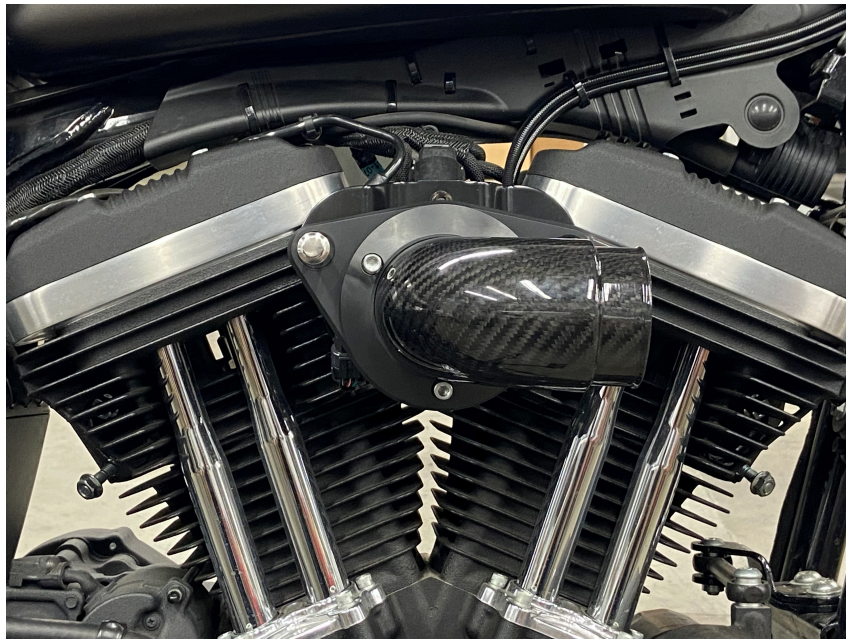

Figure 1
7. Slide cover ring (**2**) onto the 90 degree tube (**3**). Then use three 1/4"-20 x 5/8" screws (**1**) to mount cover ring (**2**) and 90 degree tube (**3**) on to the air intake spacer (**8**). Tighten screw while aligning the 90 degree tube (**3**) parallel to the ground. (See Fig. 1)